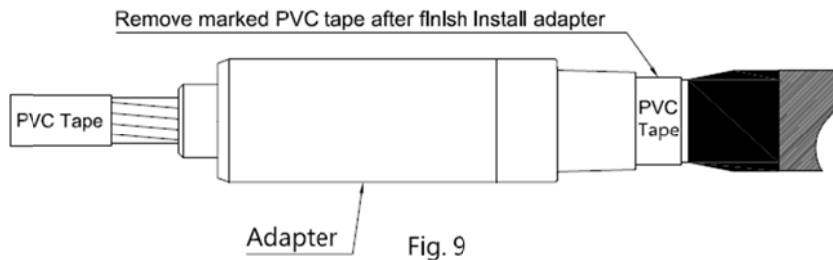

Fig. 9
Step 9. After cleaner evaporate, lubricate cable insulation and the inside surface of adapter by silicone lubricant. Slide adapter down the cable to marked PVC tape as Fig. 9. Remove marked PVC tape after finish install adapter.